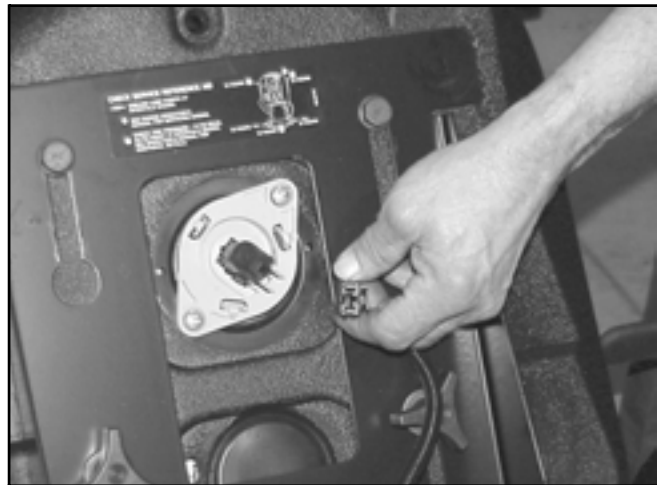

Figure 54
3. Unplug the seat switch and temporarily connect a jumper wire across the plug connector on the harness (Figure 54).